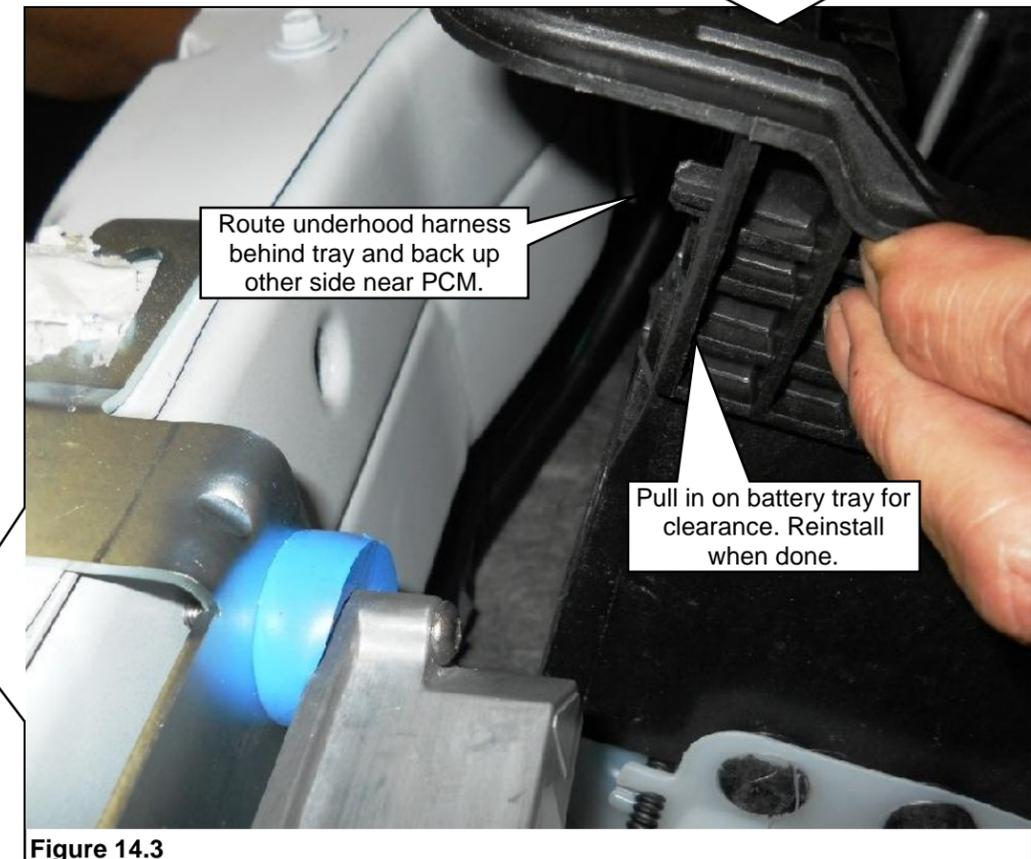

Figure 14.3
6. Pull in on the battery tray and route the underhood harness behind the tray and then up the back side of the tray to the right of the PCM. Tuck the harness under the inner fender. **Figure 14.3.**